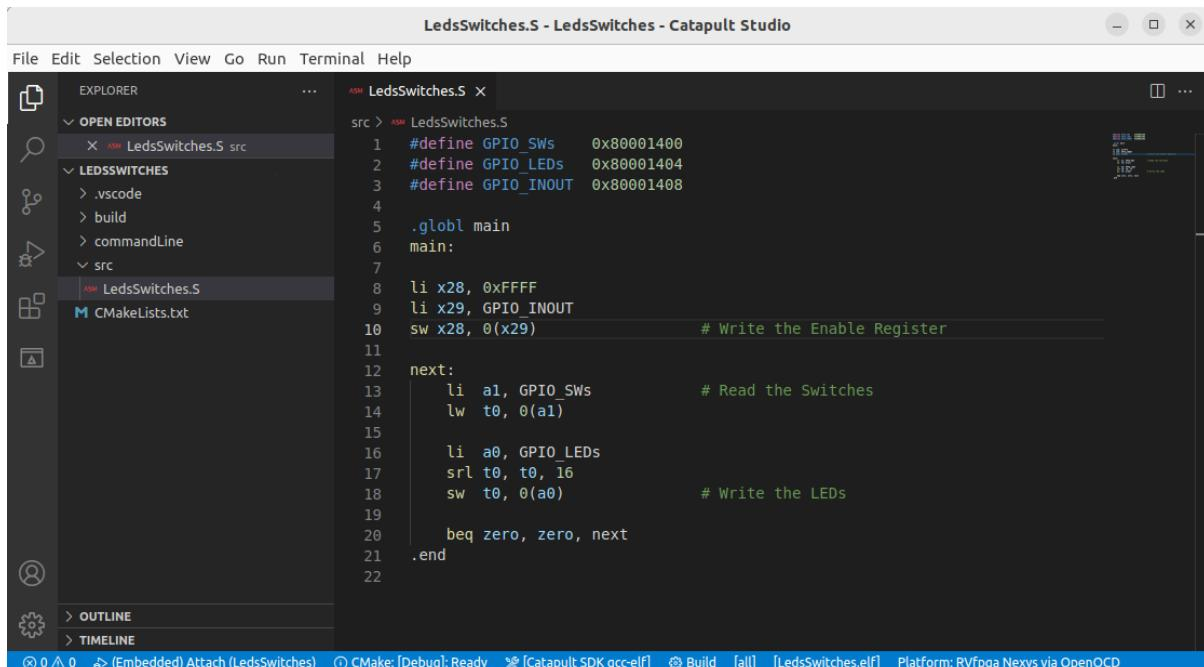

Figure 46. LedsSwitches.S in Catapult Studio
3. The program *LedsSwitches.S* has an infinite loop where the switches are read and then their state is shown on the LEDs (Figure 46).